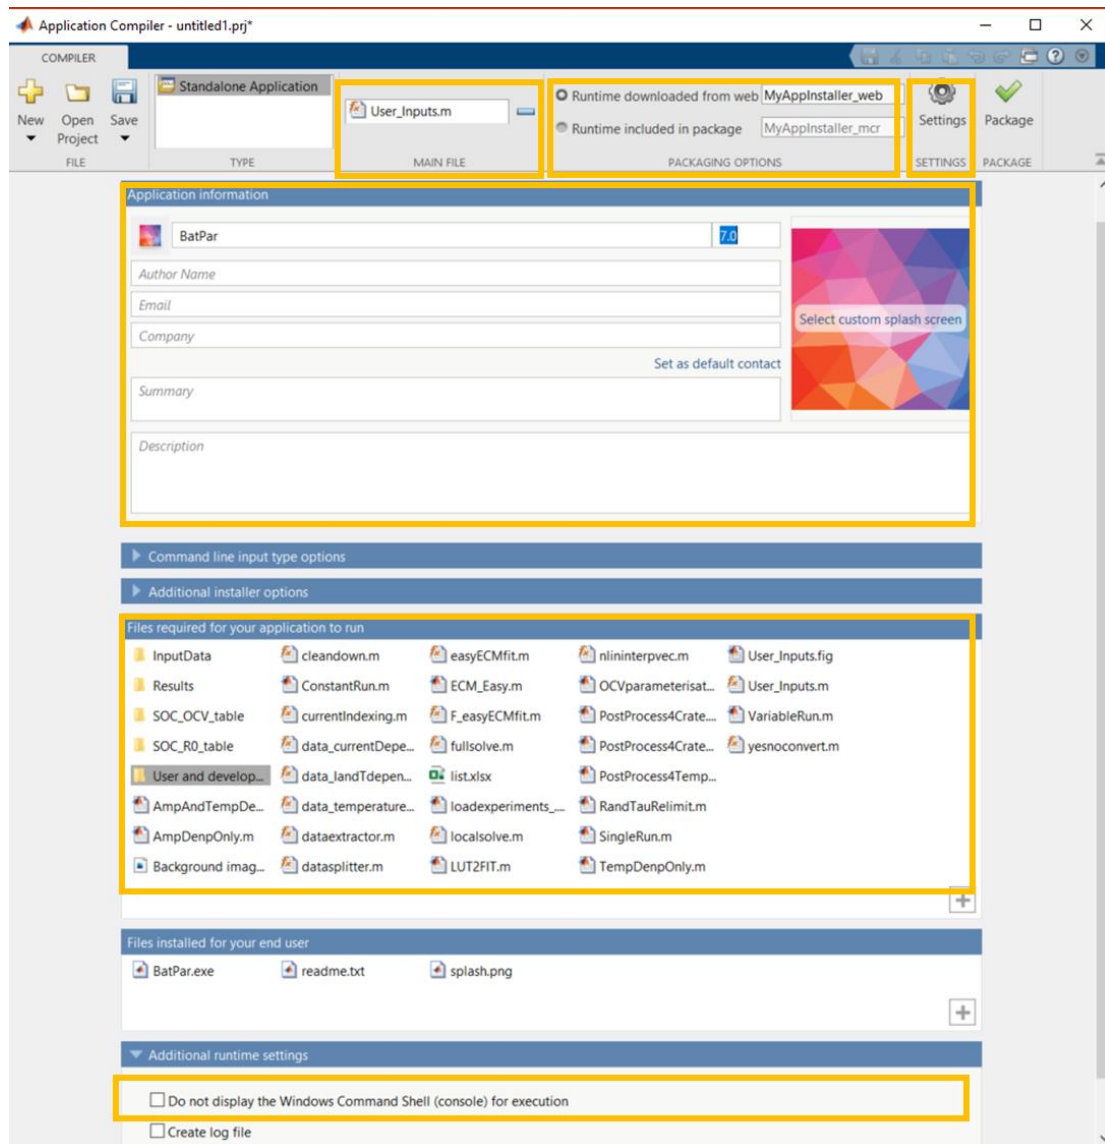

Fig. 16. Use application compiler to generate user-oriented installer of BatPar.
1. Use 'deploytool' command to open the application compiler, as Fig. 16.